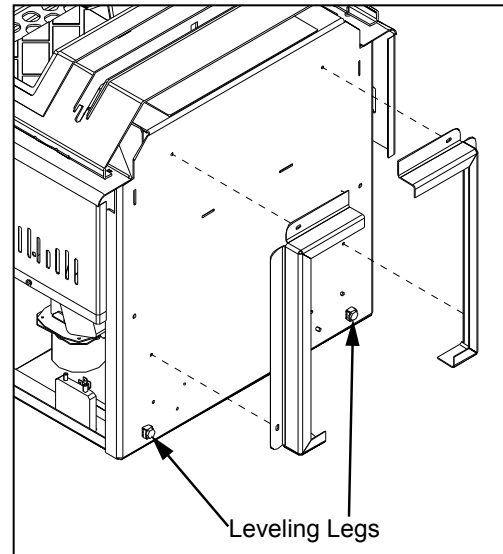

Figure 8: Installing Pedestal.
There are two parts to the Meridian insert pedestal and they can be found inside the hopper. Place unit on its back. Two (2) hex head screws are used on each side of the pedestal (refer to Figure 8). Using a  $\frac{5}{16}$ " wrench or socket attach the pedestal to the bottom of the unit.